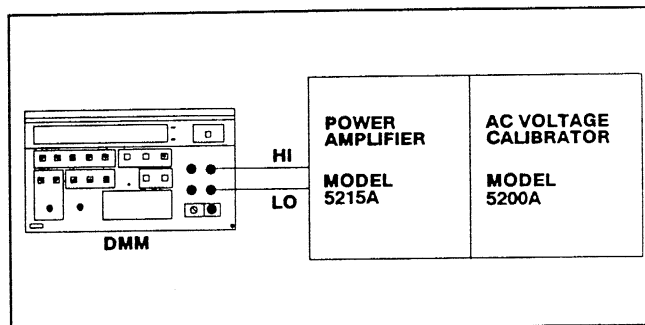

Fig. 2-2. Connections for TRMS AC Volts Check.
b. Connect the DMM to the AC voltage calibrator and the power amplifier as shown in Fig. 2-2.